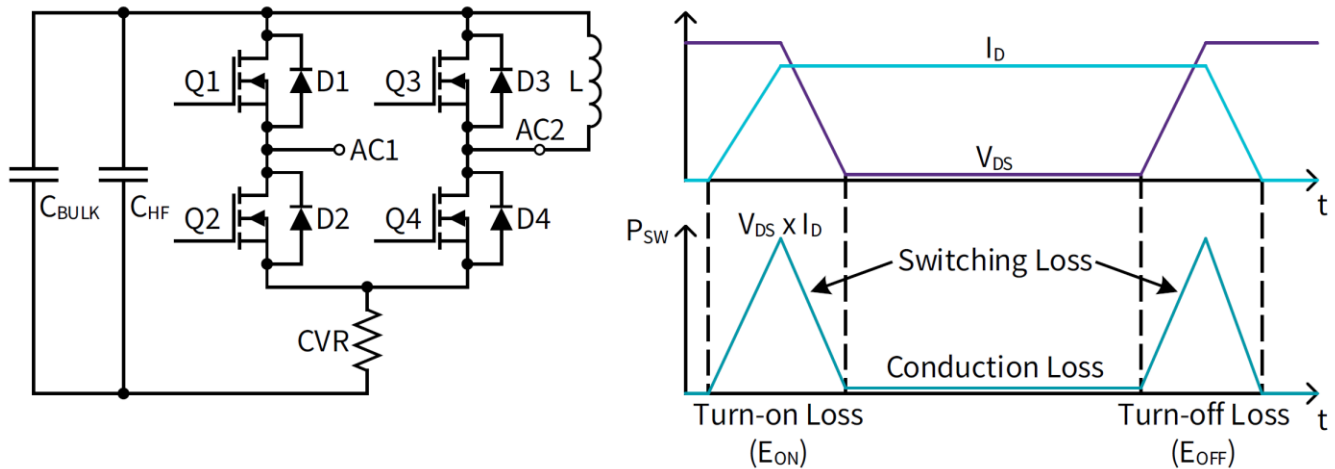
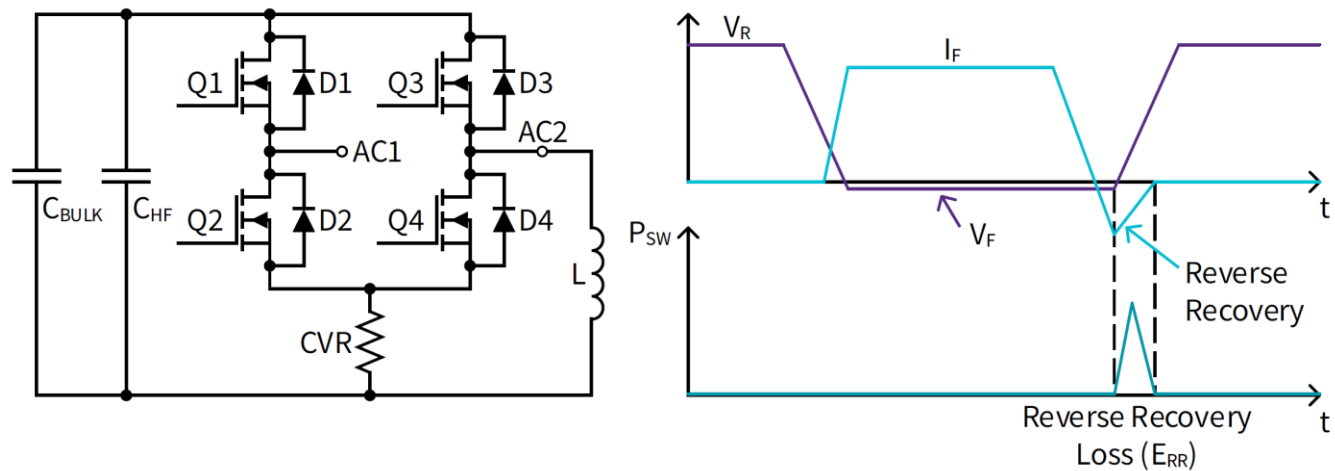

FIGURE 2: CIL TEST FIXTURE USED TO MEASURE THE SWITCHING LOSS OF MOSFET Q4
FIGURE 3: CIL TEST FIXTURE USED TO MEASURE THE SWITCHING LOSS OF BODY DIODE D4
There are two types of switching events: actively switched (MOSFET) and forced commutation (body diode). The test fixtures to measure both events are given below in Figure 2 and Figure 3, respectively, for the “AC2” phase leg. Phase leg “AC1” is inactive in this example and is configured to remain off during testing to avoid affecting the measurements of the active switch positions. Q3 and Q4 represent the selected switch positions of the Wolfspeed WolfPACK™ full-bridge power module. Likewise, D3 and D4 represent the intrinsic body diodes of each switch position since there are no external Schottky diodes. For both tests, film capacitors (C_{Bulk}) are used for bulk energy storage to provide the needed energy transfer to the inductor (L) for the switching event, while high-frequency capacitors (C_{HF}) are used to provide a low-inductance switching loop. For MOSFET switching measurements in Figure 2, the inductor is connected across the upper switch position of the phase leg from the “AC2” midpoint to the positive bus rail while Q3 is held off and Q4 is pulsed; for body diode switching measurements in Figure 3, the inductor is connected across the lower switch position of the phase leg to the negative bus rail while Q3 is pulsed and Q4 is held off.